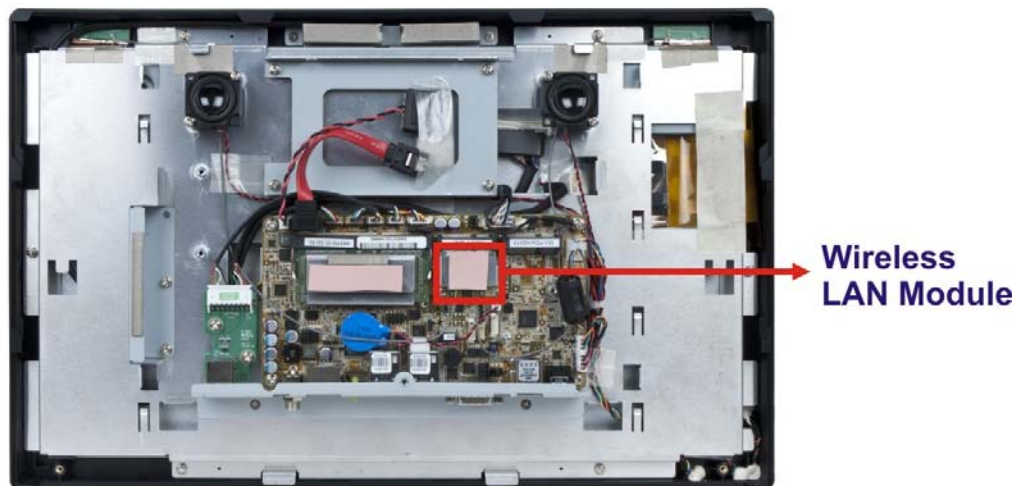

Figure 5-1: WLAN Card Location
- Step 4:** Locate the WLAN card (**Figure 5-1**).